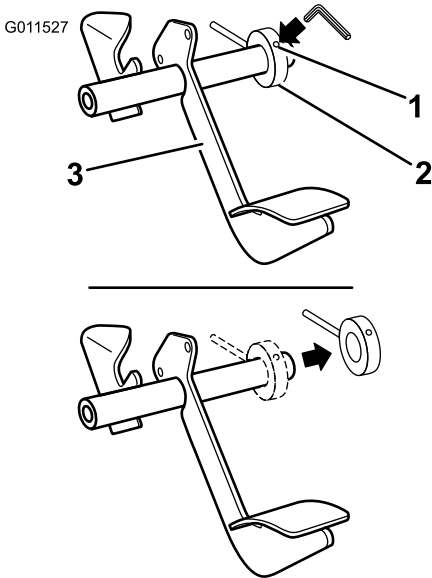

Figure 6
2. Loosen the set screws on the collar and slide the collar assembly off the pedal assembly (Figure 6).